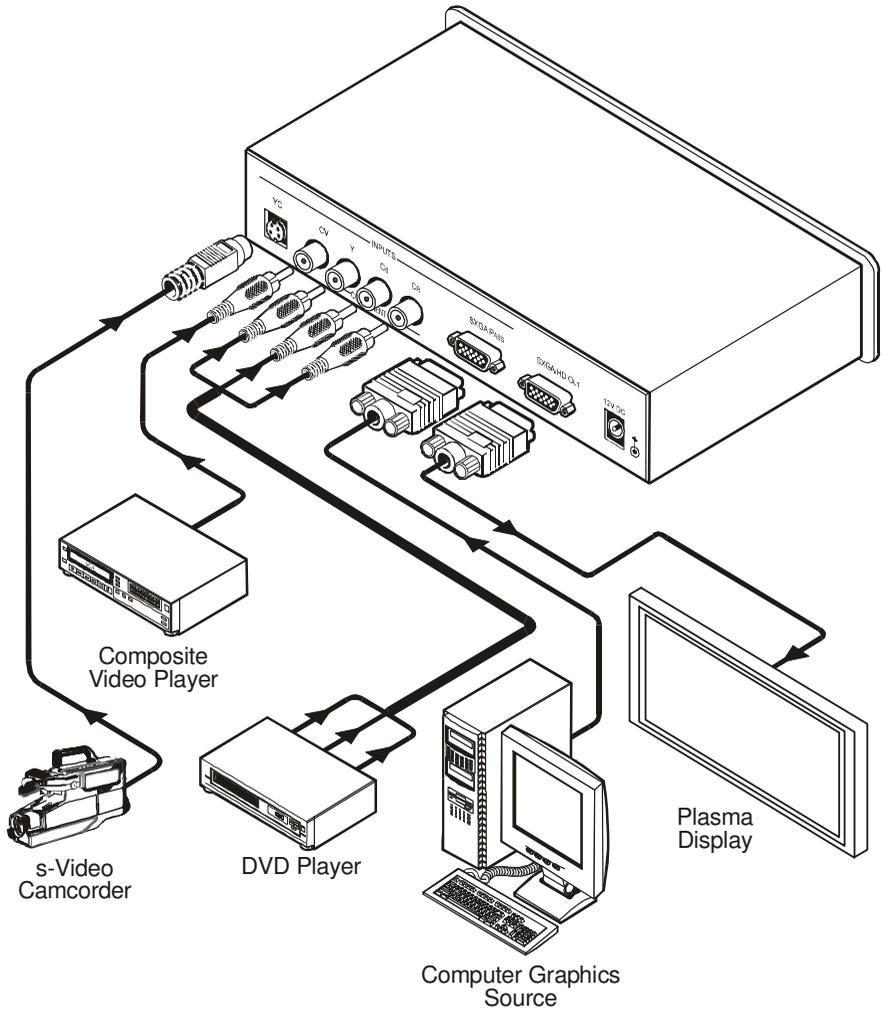

Figure 2: Connecting the CSC-550 Video to SXGA / HD Scaler
Connect⁴ your **CSC-550**, as illustrated in the example in Figure 2:
6. Connect the 12V DC power adapter to the power socket and connect the adapter to the mains electricity (not shown in Figure 2).